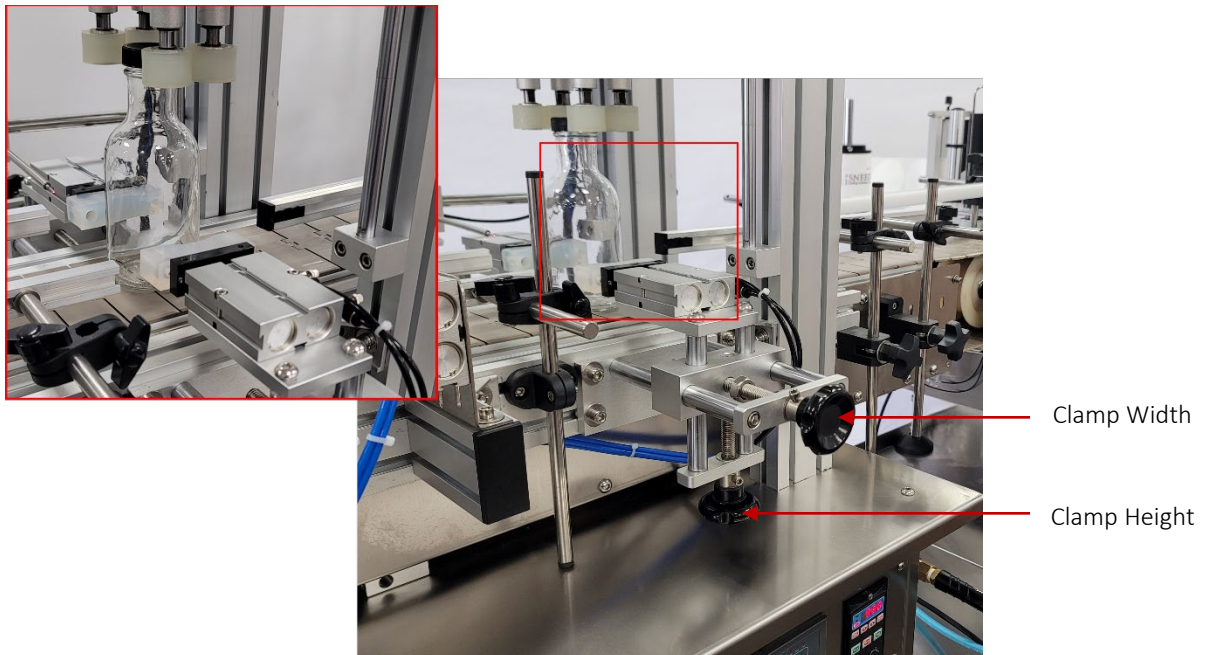

Figure 6.
1. Using the width knob in Fig.6, set the clamp to its widest setting and place the bottle between the clamps.
4. Use the width knobs (Fig.6) on each side of the capper to set the bottle clamp. Do not overtighten the clamp onto the bottle.